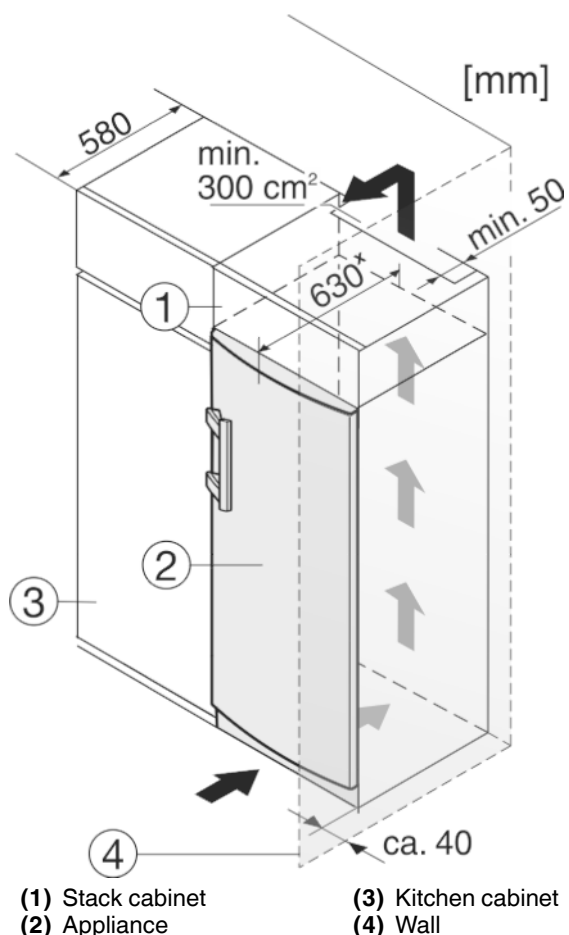

Fig. 13
- (1) Stack cabinet
(2) Appliance
(3) Kitchen cabinet
(4) Wall
The appliance can be built into kitchen units. A top cupboard Fig. 13 (2) can be added above the appliance in order to bring the appliance Fig. 13 (1) up to the height of the fitted kitchen units.
When installing with kitchen units (max. depth 580 mm), the appliance can be positioned directly next to the kitchen cabinet Fig. 13 (3). The appliance will project by 34 mm* at the sides and 50 mm* in the centre of the appliance in relation to the kitchen cabinet front.
If the appliance is installed with the hinges next to a wall Fig. 13 (4), the distance between appliance and wall has to be at least 40 mm. This corresponds to the projection of the handle when the door is open.